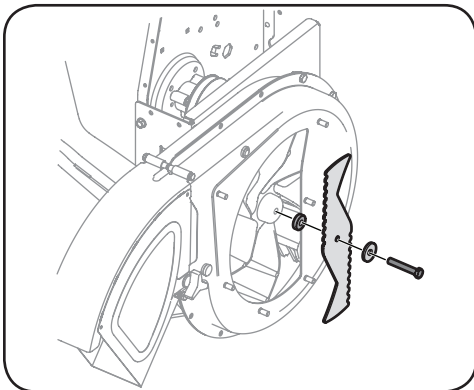

Figure 5-16
- Remove the hex bolt, flat washer, and spacer to completely free shredder blade. See Figure 5-16.